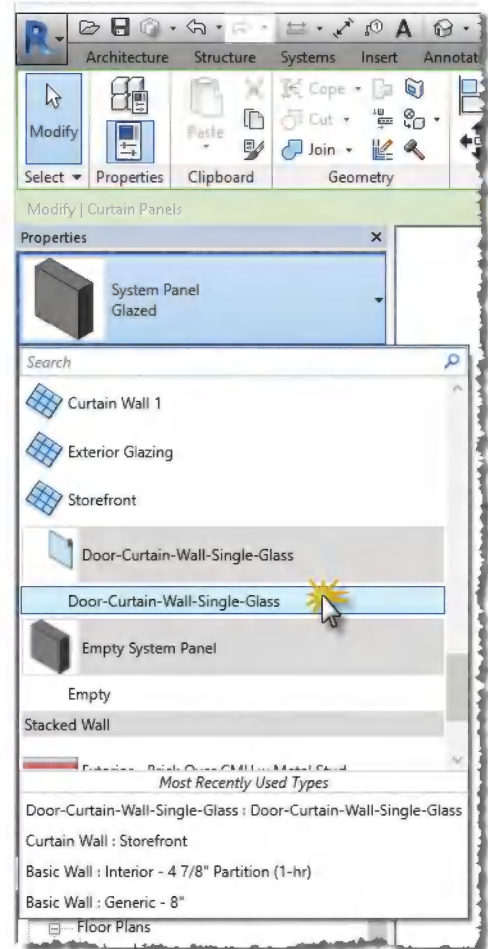

FIGURE 8-5.5 Type selector with curtain wall cell selected
10. With the cell selected, pick **Door-Curtain-Wall-Single-Glass** from the *Type Selector* on the *Properties Palette* (Figure 8-5.5).